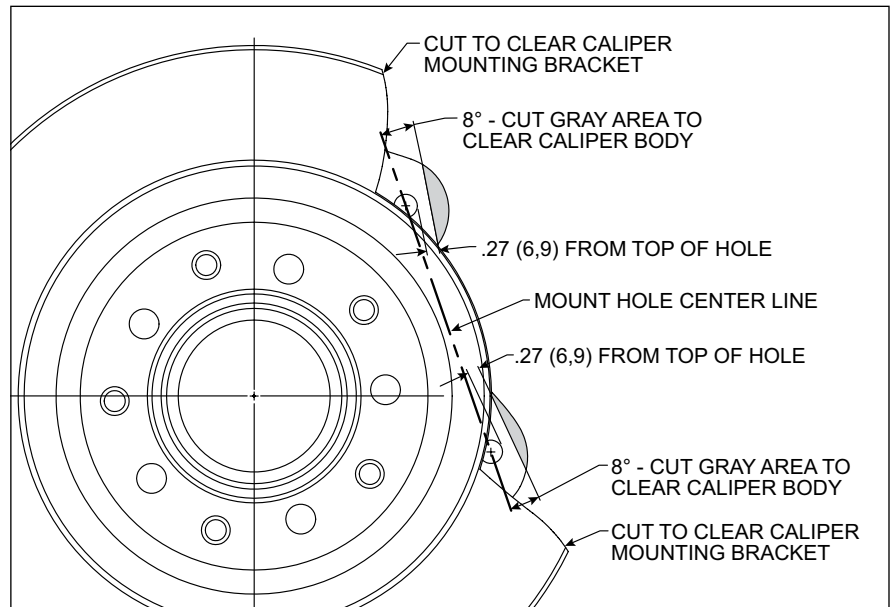

Figure 3. Dust Shield, Mounting Tab Modifications
The rear backing plate/dust shield and OE caliper mounting tabs (gray area) needs to be modified as shown in Figure 3 to clear the new Wilwood caliper (6) and caliper mounting bracket (1). **NOTE:** It is recommended that the backing plate be removed before modification, and the modifications be performed by a qualified machine shop. Using the bracket as a template, cut the dust shield as shown in Figure 3 to provide sufficient clearance. Next, cut the OE mounting tabs to clear the new caliper body as shown in Figure 3. Do not cut off more material than is needed to clear the caliper body.